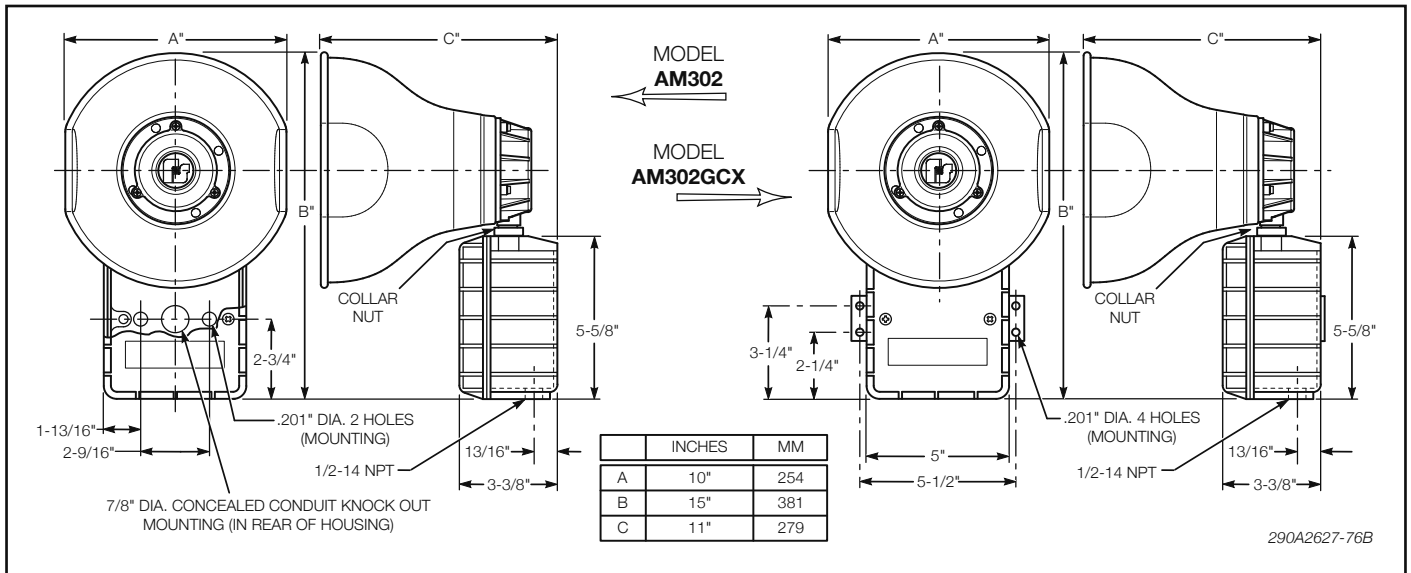

Figure 1. Models AM302 and AM302GCX Speaker Dimensions.
B. Mounting Arrangements (see figure 1).
- c. Using the mounting holes (two (2) inside the Model AM302's housing or four (4) in the AM302GCX's external mounting bracket) as a template, scribe drill position marks on the mounting surface. See figure 1 for mounting hole locations and dimensions.
- e. Reposition speaker projector if necessary to obtain desired sound coverage. Loosen collar nut (see figure 1) and move projector to desired position.
- e. Using the two (2) mounting holes as a template, scribe drill position marks on the mounting surface. See figure 1 for mounting hole locations and dimensions.
- g. Reposition speaker projector if necessary to obtain desired sound coverage. Loosen collar nut (see figure 1) and move projector to desired position.